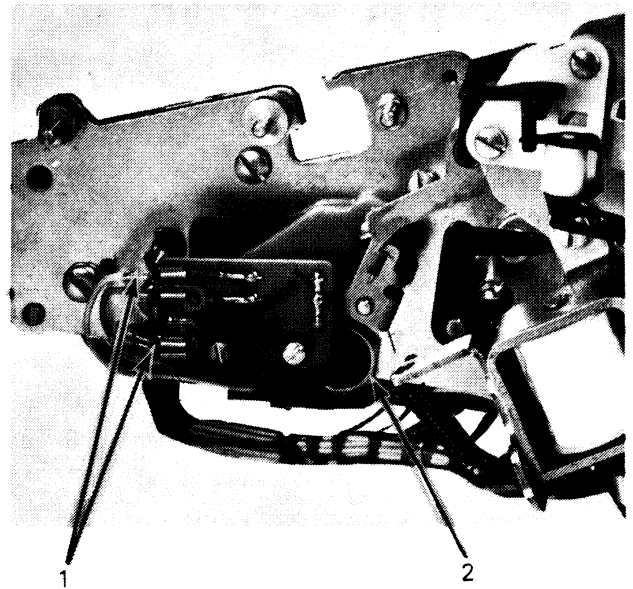

Figure 4-55. Keyboard Removal (Right Side of Keyboard)
2. Unplug the four end-of-line terminals (No. 1, Figure 4-55).
3. Remove the nut from the ON/OFF switch (No. 2, Figure 4-55). Push the switch free of the keyboard.